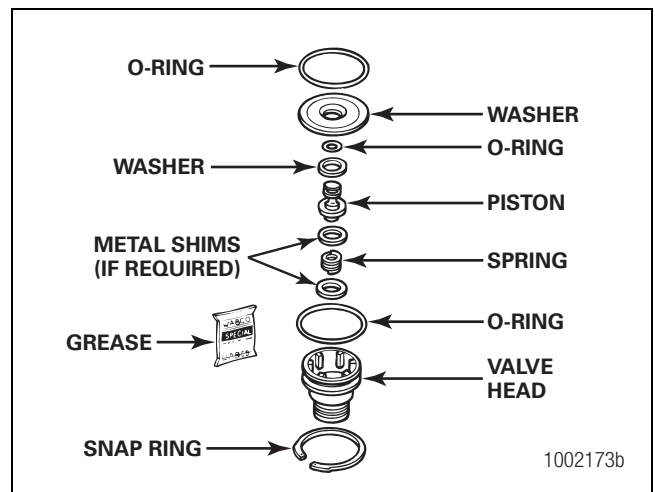

Figure 2.13
- Review Figure 2.13 to ensure you have all of the parts required to replace the purge valve.